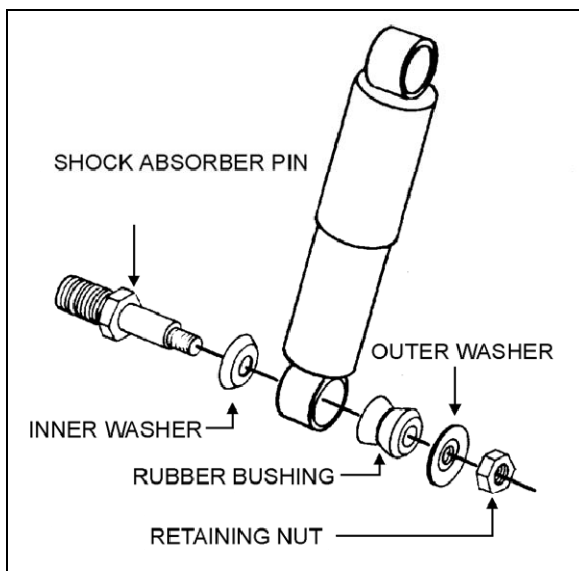

FIGURE 44: SHOCK ABSORBER 16008
1. Remove nuts and washers from shock absorbers on upper and lower mounting pins, taking care to identify the inner and outer washers to ease reinstallation. Refer to figure 44 for details.
3. Place the inner washers (with washer convex side facing the shock absorber rubber bushing) on each shock absorber pin (Fig. 44).